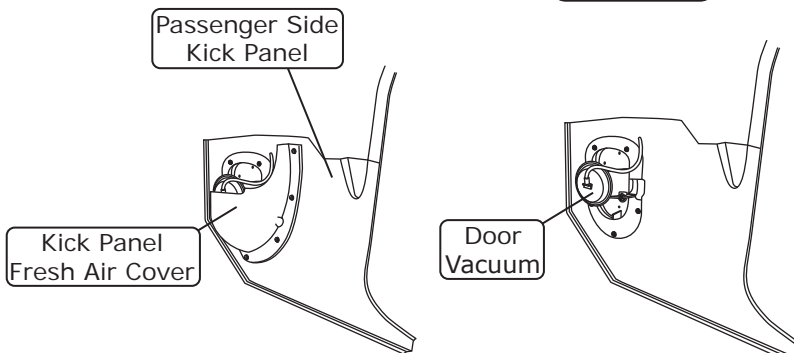

Figure 3
4. Remove the passenger-side kick panel fresh air cover (retain), door vacuum (discard) and passenger-side kick panel (retain) (See Figure 3, below).